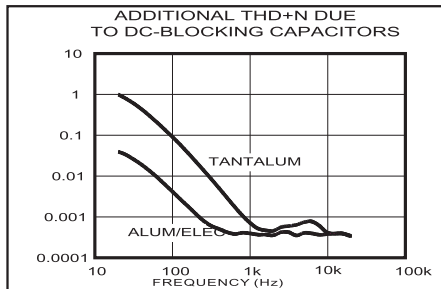

Figure 3. Distortion Contributed by DC-Blocking Capacitors
2) The voltage coefficient of the DC-blocking capacitor contributes distortion to the reproduced audio signal as the capacitance value varies as a function of the voltage change across the capacitor. At low frequencies, the reactance of the capacitor dominates at frequencies below the -3dB point and the voltage coefficient appears as frequency-dependent distortion. Figure 3 shows the THD + N introduced by two different capacitor dielectric types. Note that below 100Hz, THD + N increases rapidly. The combination of low-frequency attenuation and frequency-dependent distortion compromises audio reproduction in portable audio equipment that emphasizes low-frequency effects such as multimedia laptops, as well as MP3, CD, and DVD players. By eliminating the DC-blocking capacitors through DirectDrive technology, these capacitor-related deficiencies are eliminated. The CS4418D features a low-noise charge pump. The 320kHz switching frequency is well beyond the audio range, and thus does not interfere with the audio signals. The switch drivers feature a controlled switching speed that minimizes noise generated by turn-on and turn-off transients. By limiting the switching speed of the switches, the di/dt noise caused by the parasitic bond wire and trace inductance is minimized. Although not typically required, additional high-frequency noise attenuation can be achieved by increasing the size of C_2 (see Typical Application Circuit).